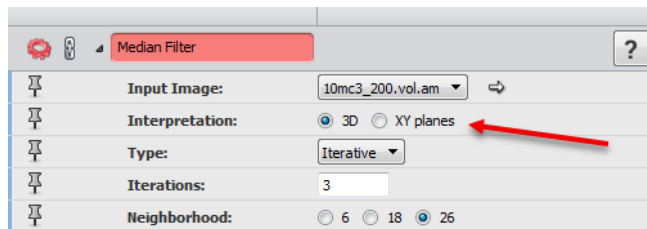

Figure 12.9: Modified parameter of the *Filter > Median Filter* module is highlighted by a red arrow.
- Set the *Filter* interpretation to *3D* (see Figure 12.9).